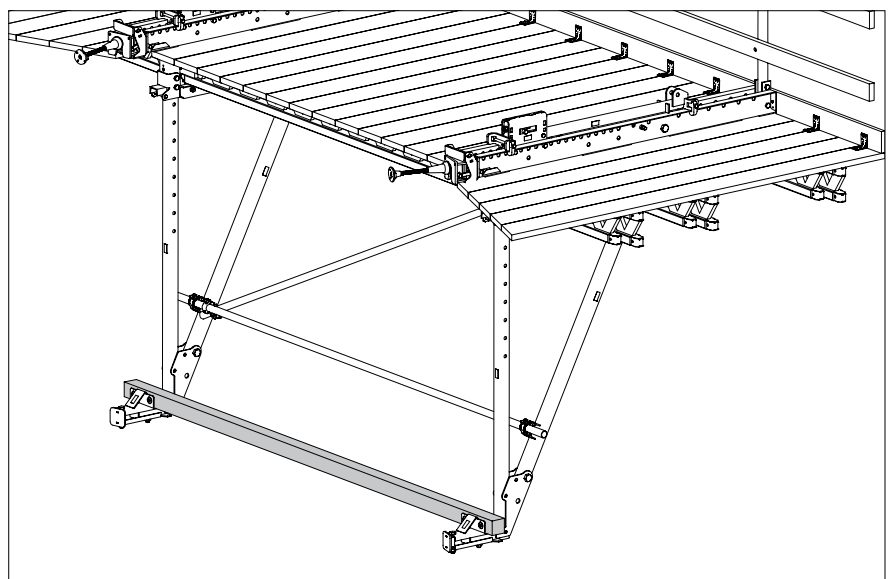

Fig. C1.04
3. Secure timber 10/10 with bolts M12 x 140, washers A12 and nuts M12 which have been provided with the swivel-mounted pressure point. (Fig. C1.04 - C1.04b)